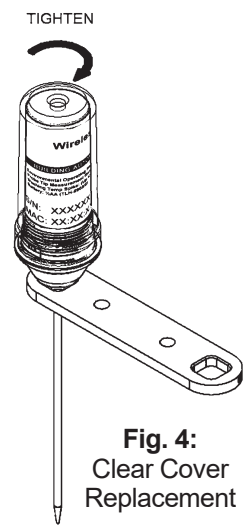

Fig. 4: Clear Cover Replacement
3. **Cover Installation:** Hand-tighten the cover onto the black probe bottom until the cover is snug to the bottom (Fig 4).